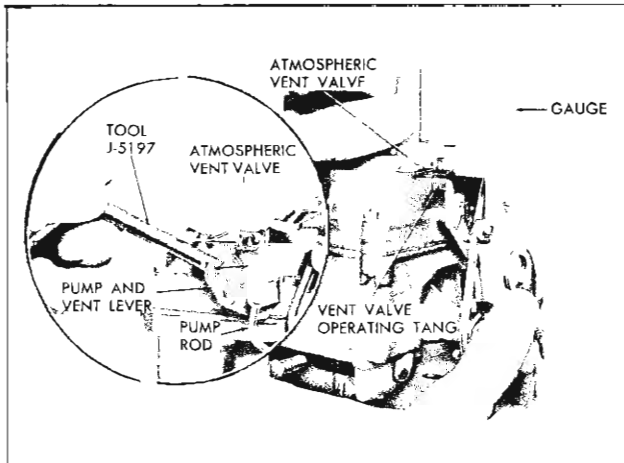

Fig. 23—Atmospheric Valve Adjustment
ATMOSPHERIC VALVE ADJUSTMENT (Fig. 23)
1. Place float gauge in chain gauge set J-21607 on top of pump housing on air horn as shown in Figure 23.
2. Slowly open throttle valves to a point where the atmospheric valve just closes on its seat (fig. 23 inset).